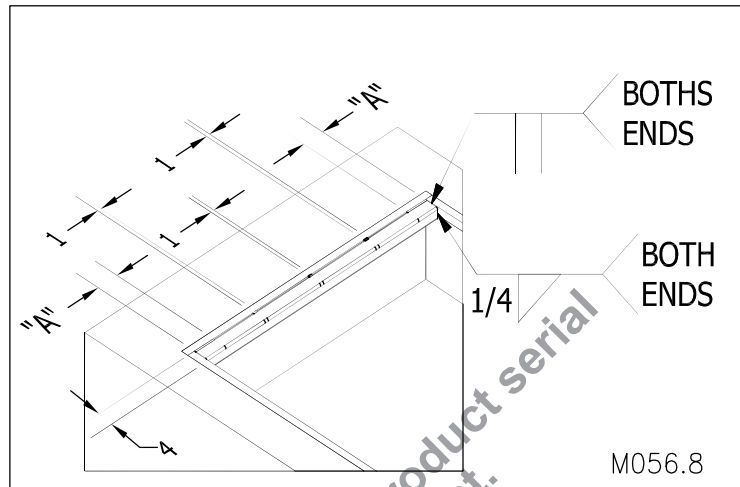

Figure 26: Welding the 4 X 3 Rectangular Tubing to the Curb Angles
3. ☐ Weld the ends of the rectangular tubing to the side curb angle (see "Figure 26: Welding the 4 X 3 Rectangular Tubing to the Curb Angles" on page 24. Add vertical welds